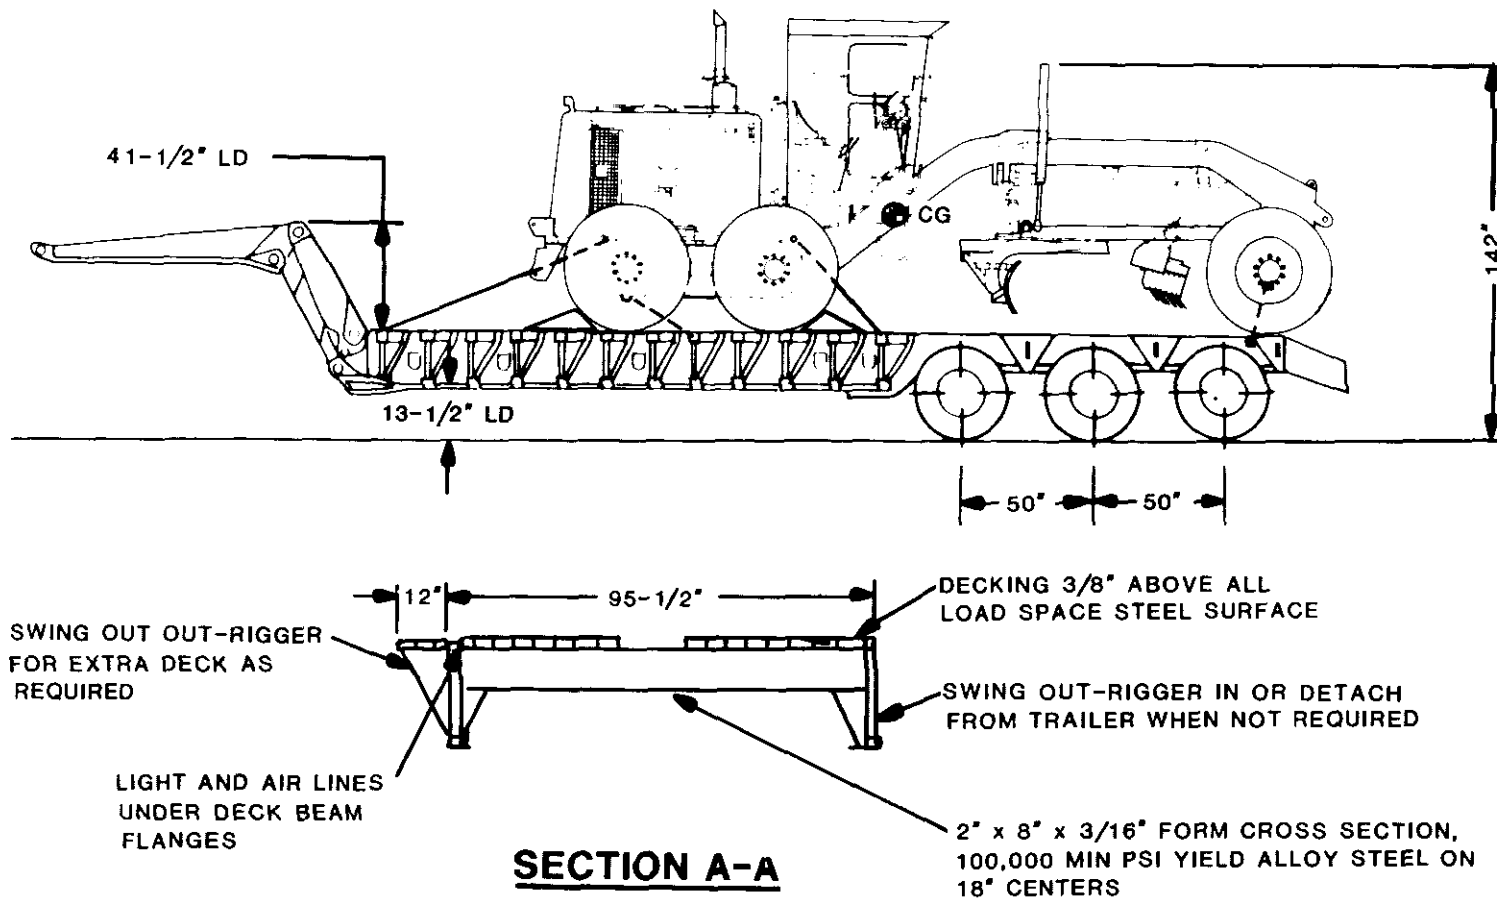

Figure 5-1. Model 130G grader loaded on an M870 semitrailer.
c. *Loaded Characteristics.* The model 130G Types I and II graders are slightly larger than the model 130G MIL grader. The model 1.30G grader loaded on the M870 semitrailer is described in figures 5-1 and 5-2.
(1) The model 130G grader may be driven to the tiedown position on the M870 semitrailer, or it can be winched on.
(2) The blade and scarifier should be in the full up position during loading. Before the blade is lowered, it should be turned so it fits within the width of the grader. Parking shoring should be placed under the blade to protect the semitrailer bed.
(3) After the grader is placed at the tiedown position, the transmission must be placed in the neutral position and brakes set, if appropriate. Doors should be wired shut to preclude opening en route.